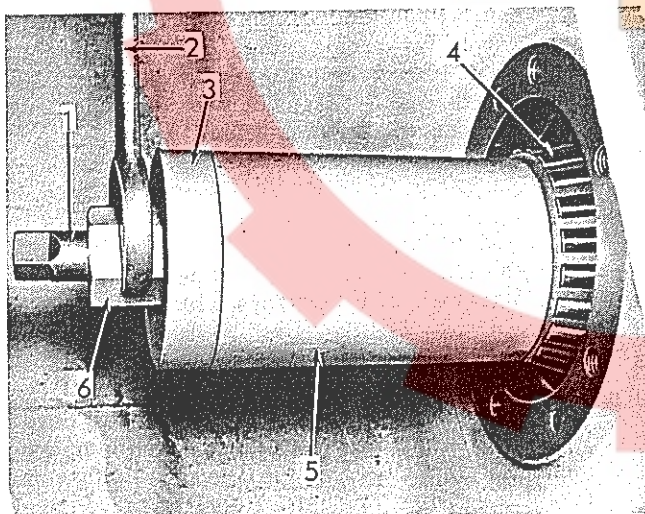

Fig. 16 Installing Bevel Gear Shaft Bearing Cone
O.D. of bearing toward bevel gear. Refer to Fig. 16; install puller screw in tapped hole in end of shaft and place tube against inner race of bearing cone. Install tube end plate, thrust washer, and hex-nut; tighten hex-nut until bearing cone is tight against shoulder on shaft; remove tools.